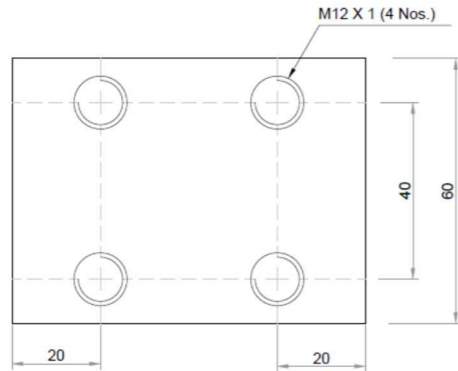

Figure 8 (All Dimensions are in millimeter)
- (ii) What is the purpose of a feed rod and lead screw in a lathe? (4) 2 2
13. (a) (i) What mechanism are employed in a shaper for converting a rotary into a reciprocating motion? Explain how a quick return tool motion is achieved in a shaper. (10) 3 3
- (ii) A component shown in the figure 8 has to be manufactured and the job order quantity is small. Select a suitable machine, list the sequence of operations and also the associated cutter. (Drill size standards are 6, 8.50, 12 mm) (4) 3 3